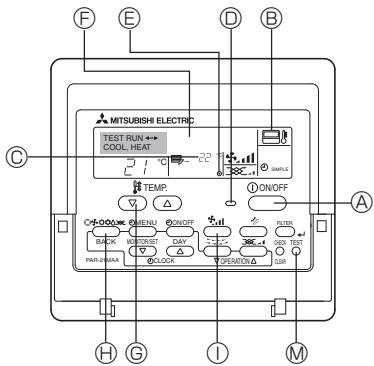

Fig. 9-2
9.2.2. Wired remote controller (Fig. 9-2)
- ① Turn on the power at least 12 hours before the test run.
- ② Press the [TEST] button twice. → "TEST RUN" liquid crystal display
- ③ Press the [Mode selection] button. → Make sure that wind is blown out.
- ④ Press the [Mode selection] button and switch to the cooling (or heating) mode.